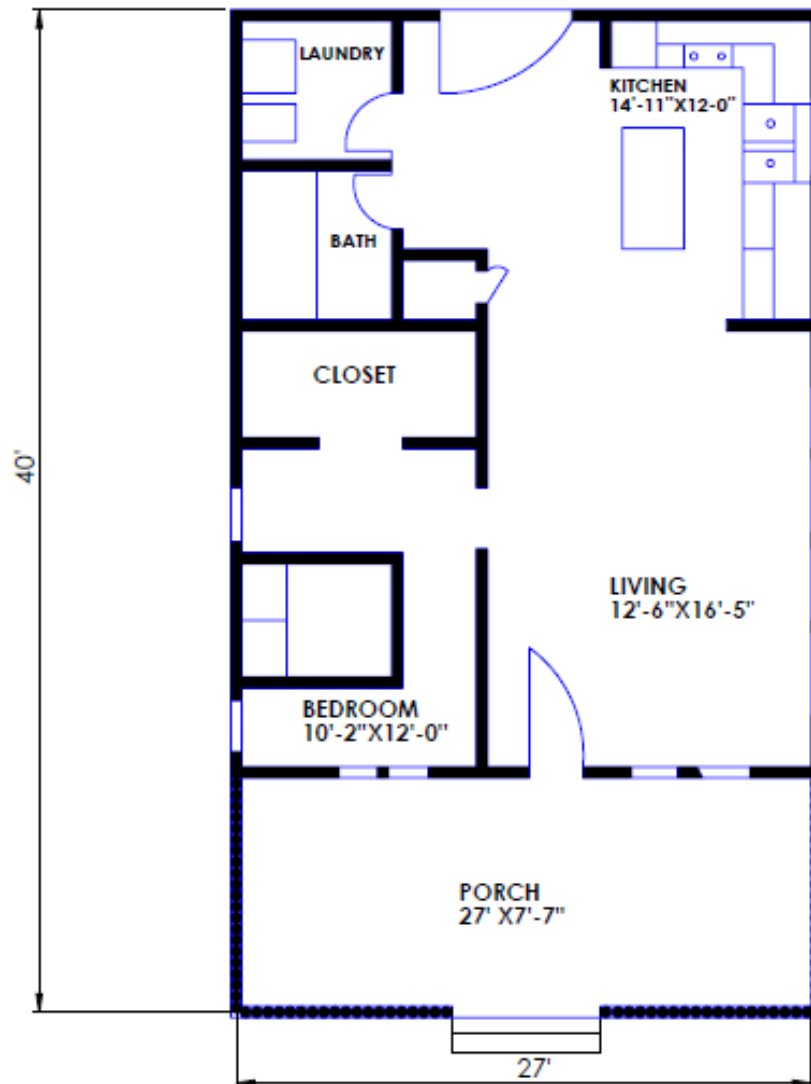

Figure 11.1: Details of single room plan
11.1 Draw single room plan of the building as shown in Figure 11.1. (Scale 1feet = 5mm)